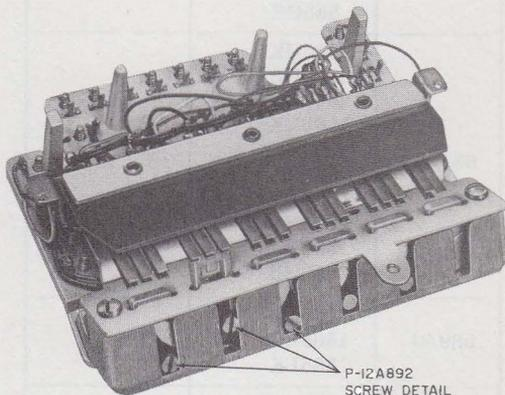
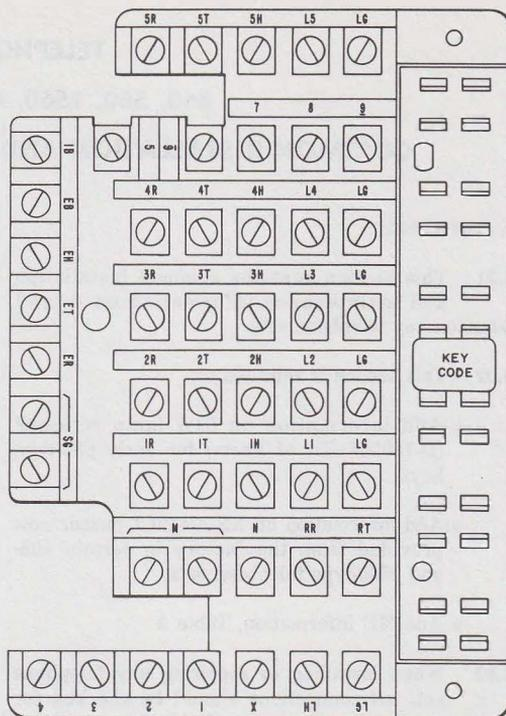
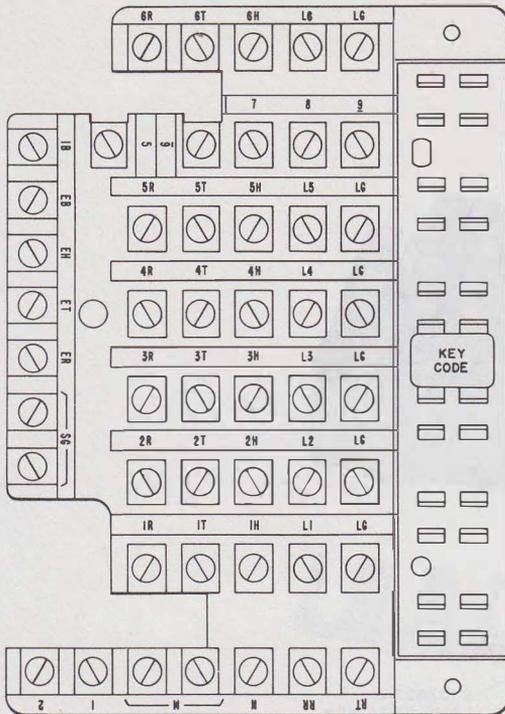

Fig. 1—636A Key, Bottom View
Fig. 2—Terminal Board for the 636A and 589Y Key
Fig. 3—Terminal Board for the 636B Key
2.01 The 636-type key (Fig. 1) has a terminal board arrangement to accommodate matching cord terminal wafers, so that any line connected to the set can be interchanged readily to appear on any five line pickup keys. See Fig. 2 and 3 for terminal designations on the 636A and 636B, respectively.
2.03 Certain pickup buttons on 4- and 6-button sets are arranged for conversion to signaling. To convert, remove P-12A892 screw detail (Fig. 1) and make necessary wiring changes. Table A shows key and associated telephone sets with convertible buttons.
2.25 The 589Y and 636A use the P-43A983 terminal strip (Fig. 2). The 636B uses the P-44E400 terminal strip (Fig. 3).